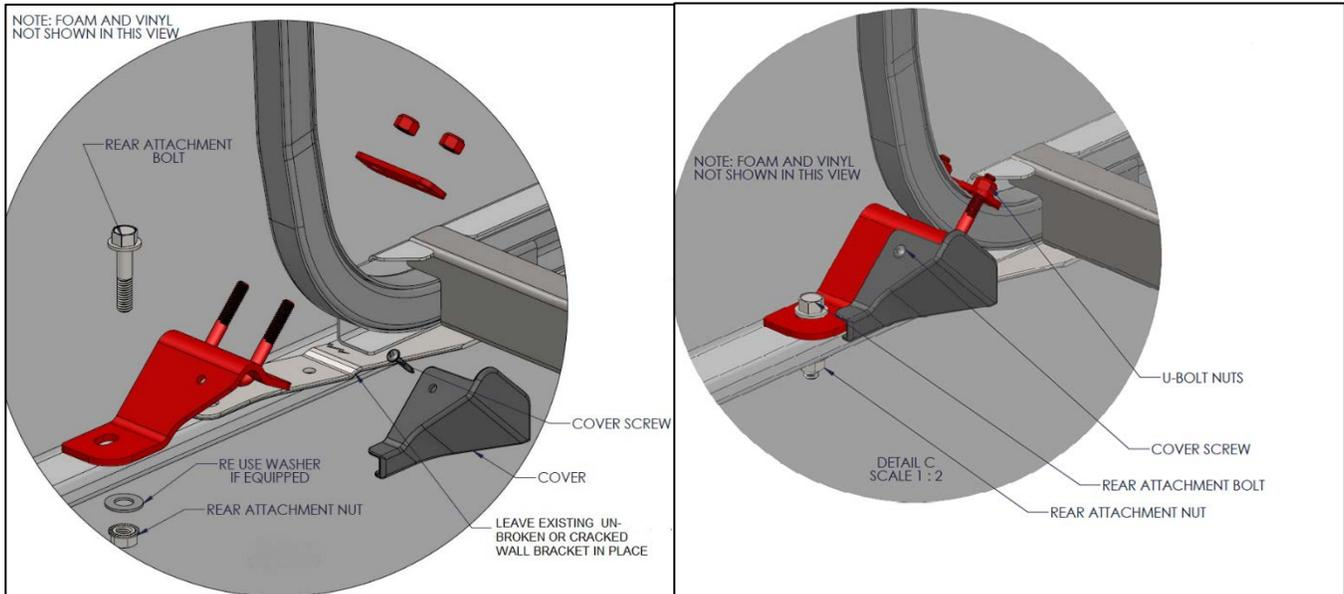

Figure 3: Bracket Installation (Driver's Side Shown) – 26 Inch, 36 Inch, and 39 Inch Seats
3. Place the new bracket over the top of the original bracket (from kit TBB 221138 for driver's side or TBB 221139 for curb side). See **Figure 3**. (Driver's side will be shown in illustrations.)
4. Using bolts from the kit, install the bracket, U-bolt, plate, and lock nuts, as shown in **Figure 3**. Hand tighten all.
2. Place the new bracket over the top of the original bracket (from kit TBB 221380 for driver's side or TBB 221381 for curb side). See **Figure 3**. (Driver's side will be shown in illustrations.)
3. Using bolts from the kit, install the bracket, U-bolt, plate, and lock nuts, as shown in **Figure 3**. Hand tighten all.